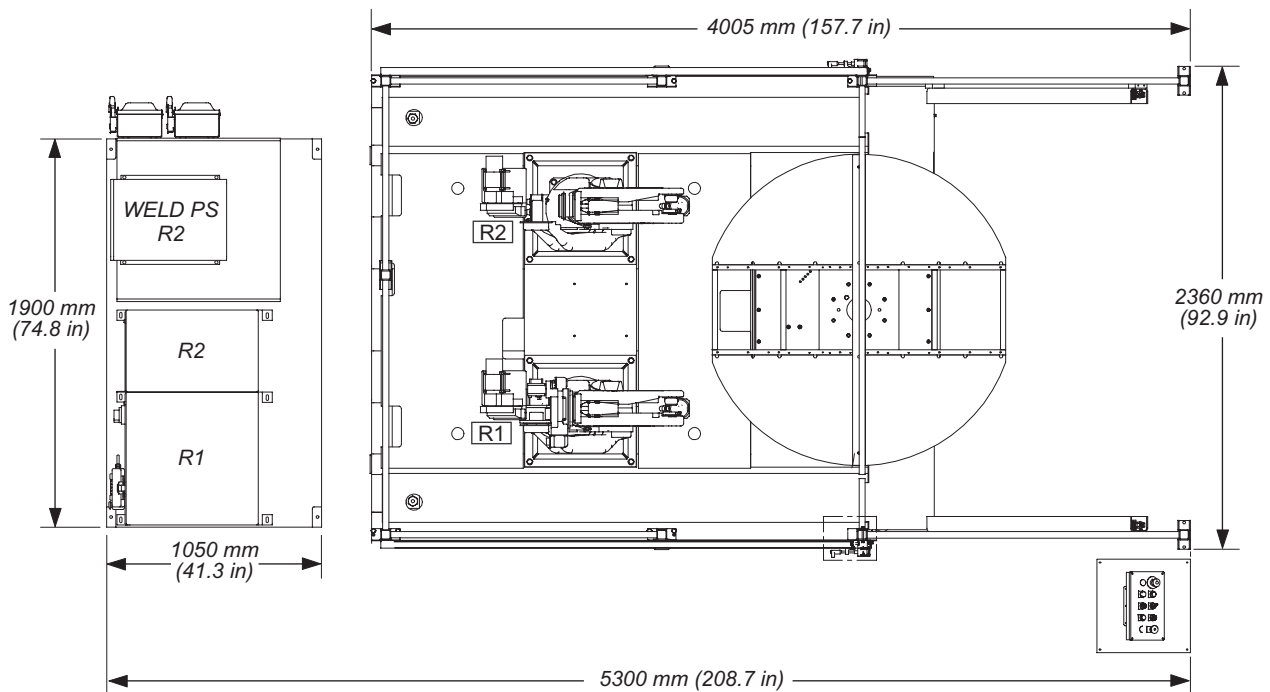
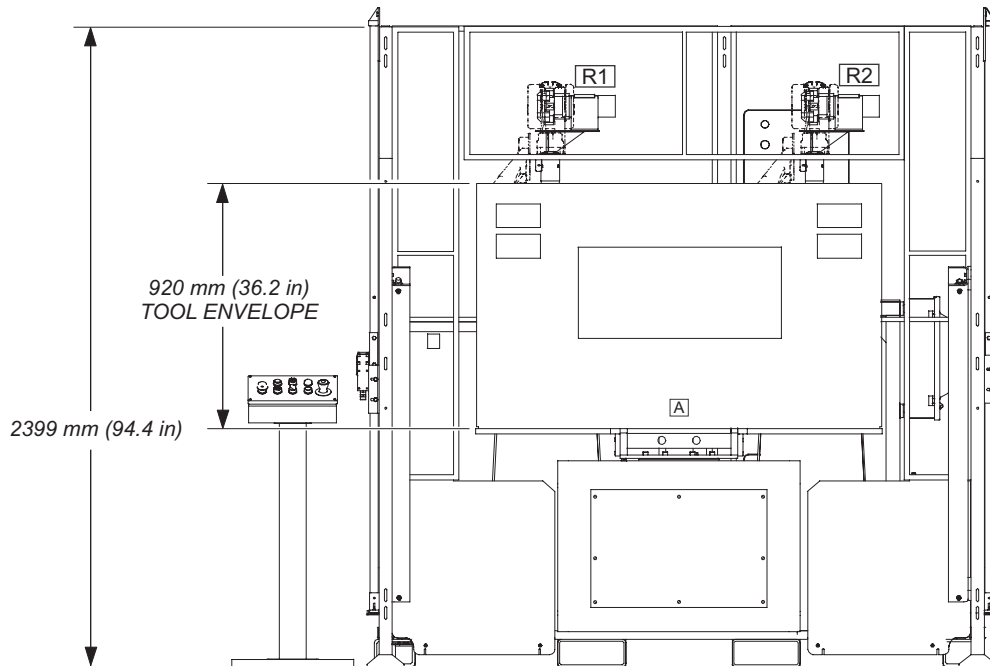
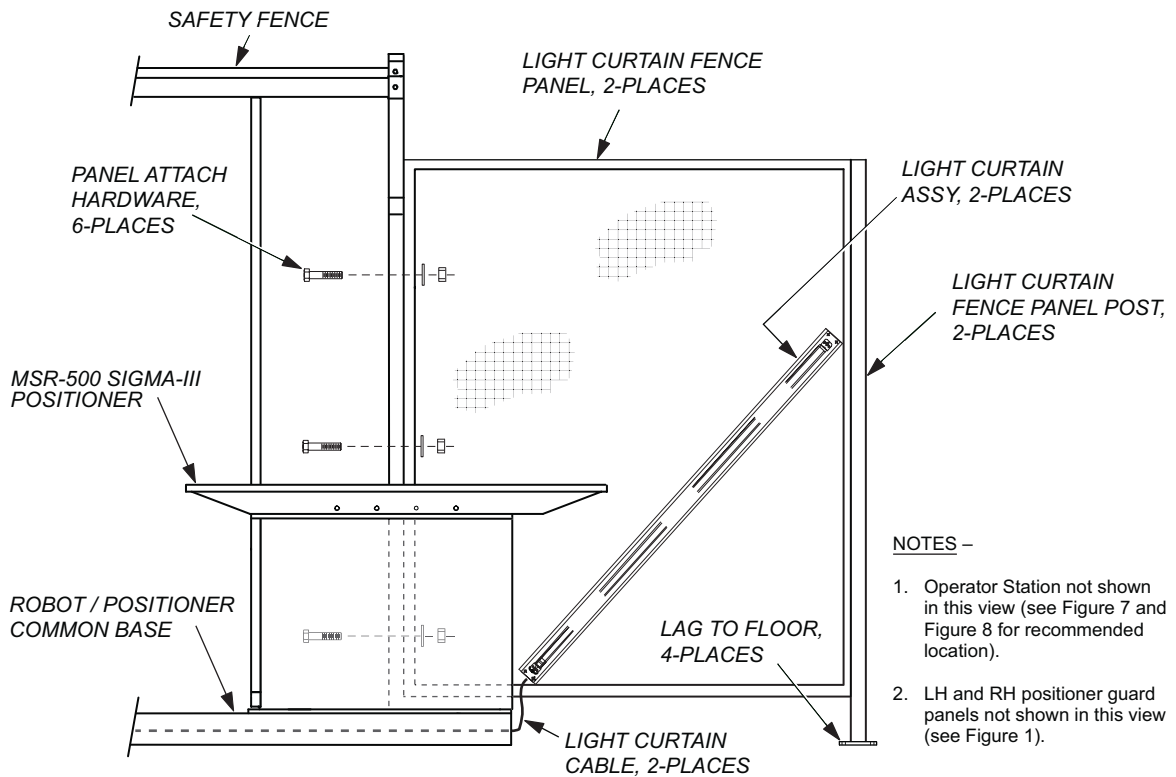

Figure 7 Plan View — ArcWorld[®] III-1200 DRC System
Figure 8 Elevation View — ArcWorld® III-1200 DRC System
Figure 11 Light Curtain Fence Panel Installation
1. Clear floor space needed for the ArcWorld[®] III-1200 DRC system (see Figure 7). Allow an additional 1.2 - 1.5 m (4 to 5 ft) on all sides of the work cell to facilitate installation.
- Place robot/positioner common base in position (see Figure 7).
Note: Make sure there is adequate room on all sides of the robot/positioner common base for the Operator Station, the light curtains, and the NX100-DRC/weld power source common base (see Figure 7).
3. Place the common base in position behind the ArcWorld® III-1200 DRC work cell (see Figure 7).
4. Place the Operator Station pedestal outside light curtain fence panels (see Figure 7 and Figure 8 for recommended location).
The light curtain components – the send unit, the receiver unit, and the two fence panels to which the light curtain units are attached – are pre-assembled and secured inside the work cell for shipping. Refer to Figure 11 and install the light curtain assemblies to the work cell safety fencing as follows:
2. Install the light curtain fence panels to the wire mesh safety fencing. Use the three bolt holes located on the safety fence posts to mount the light curtain fence panels to the safety fencing (see Figure 11).
1. Check alignment of light curtain fence panels. Each light curtain fence panel should be parallel to the safety fence panel to which it is attached. Adjust as required (see Figure 7).
2. Secure the light curtain fence panel posts to the floor (see Figure 7 and Figure 11). Use a suitable concrete drill bit and special anchor (lag) bolts (refer to Appendix A, "Anchoring" for suggested drill bit and anchor bolt). Be sure to remove all concrete dust from the drilled hole before driving each anchor bolt.